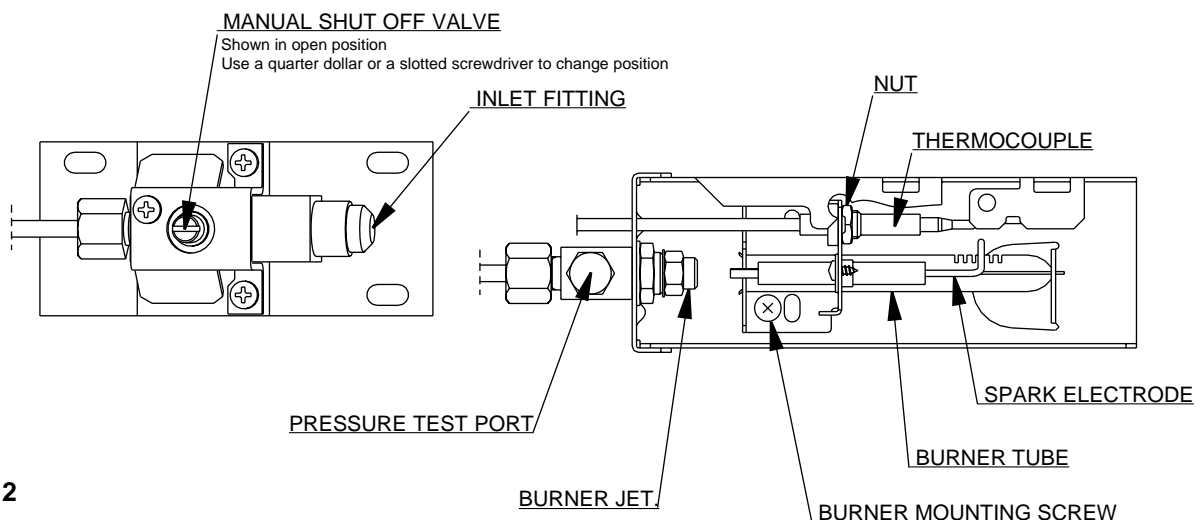

FIG. 12
- C. The LP gas pressure should be checked and the main regulator readjusted if pressure is incorrect. The correct operating pressure is 11 inches of water column. The correct place to take the LP gas pressure is at the test port just ahead of the burner jet. (See FIG. 12).
6. Remove the burner mounting screw and remove the burner assembly. (See FIG. 12).
- Clean. (See section Maintenance & Service, item 3. Periodic Maintenance, Paragraph D. item 1-14).
- Set main regulator so pressure does not drop below 11 inches of water column at pressure test port. (See FIG. 12).